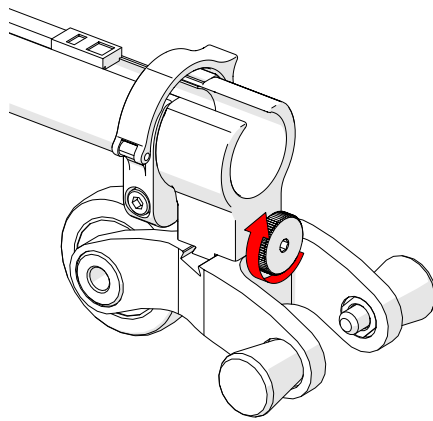

Fig. 90 - Tighten knob
2. Once centred on the dovetail link, tighten the cable management's dovetail mount knob (Fig. 90).